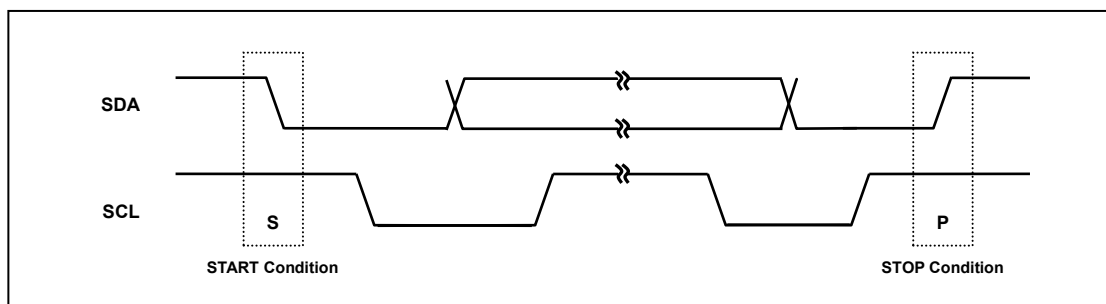

Figure 15.6. START and STOP Condition
Within the procedure of the I²C-bus, unique situations arise which are defined as START(S) and STOP(P) conditions (see Figure 15.6.).